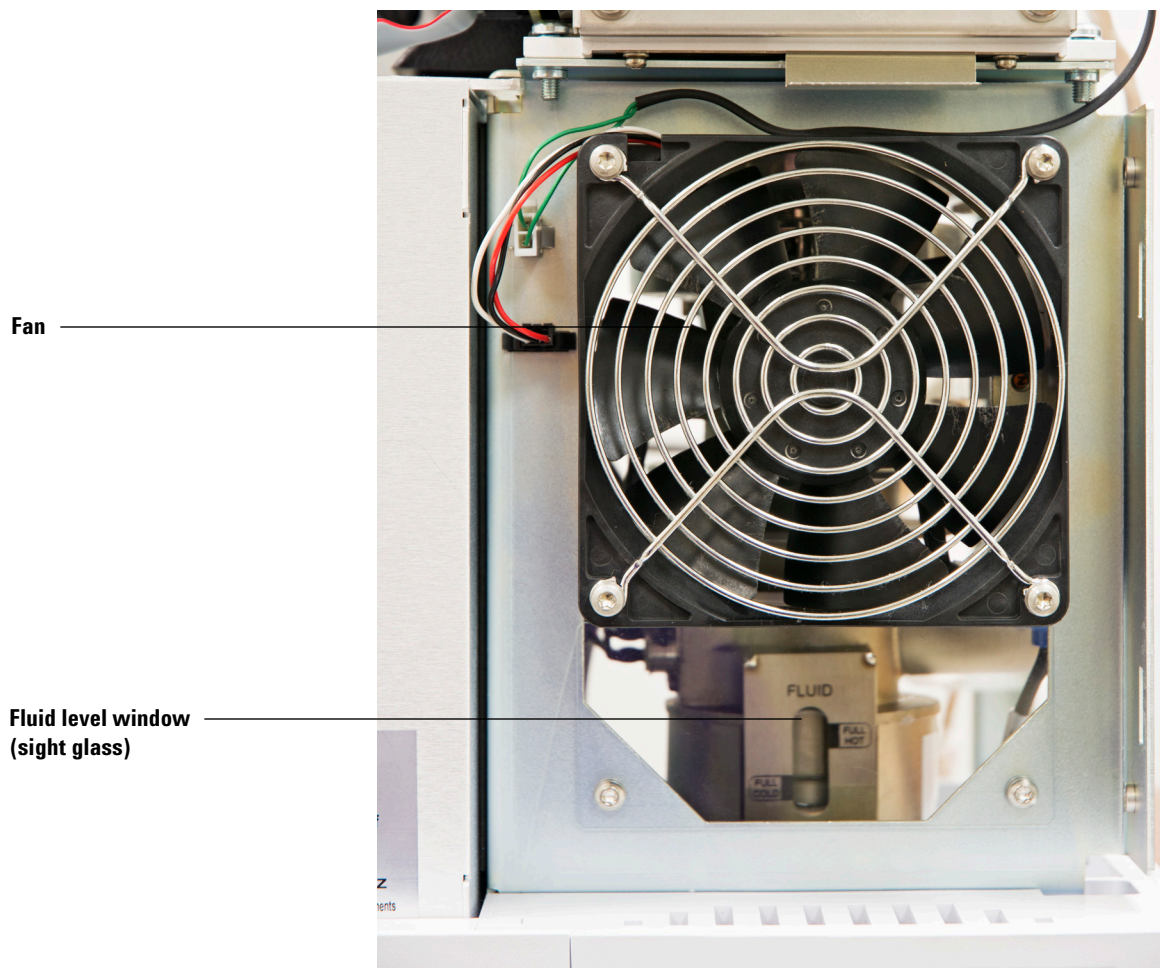

Figure 10 Diffusion pump
- 4 Check the diffusion pump fluid level. See Figure 10 on page 107.